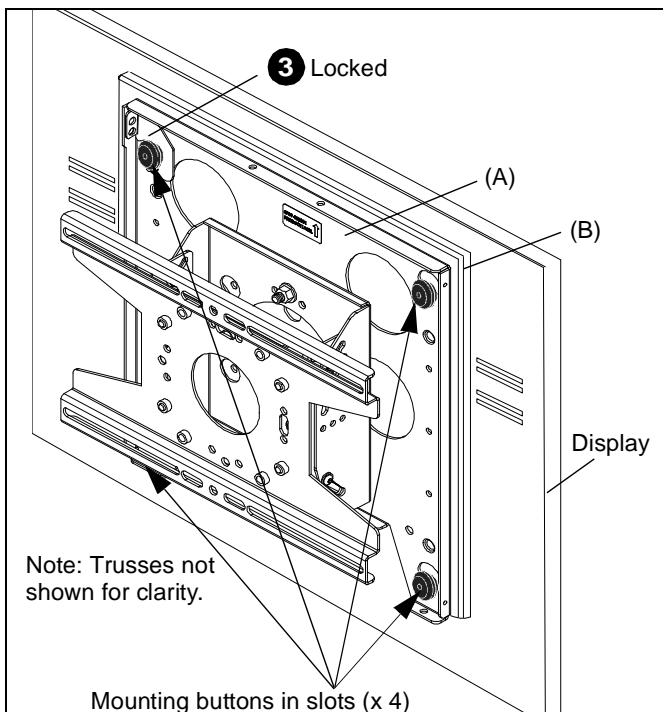

Figure 9
3. With the mounting buttons of the display fully engaged in the slots of the TPP (A), secure the display on the TPP by raising the flag all the way up to the locked position. (See Figure 9)